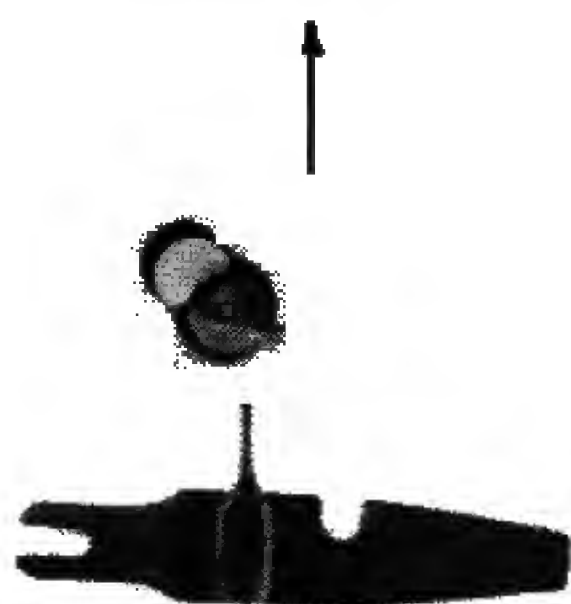
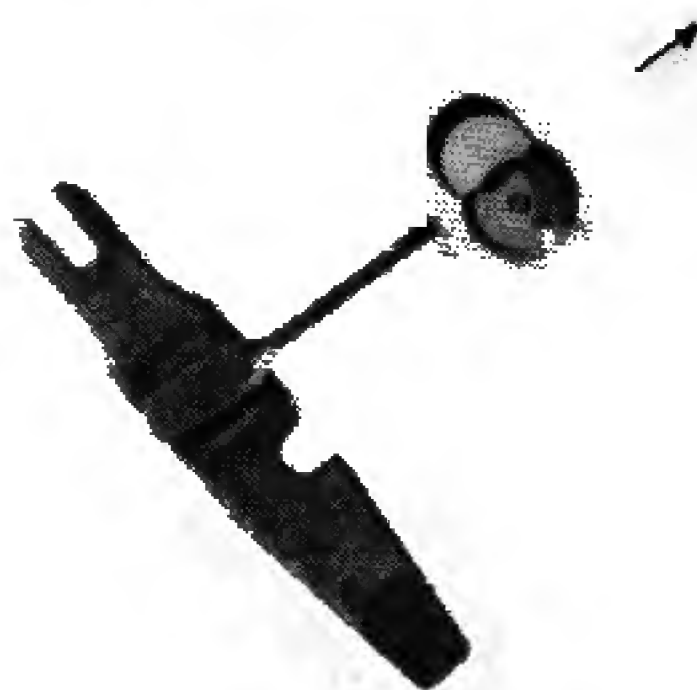

Figure 16
Figure 17
7. Disassemble the bolt by using the knock out rod on the combination tool or a pin punch of correct size. First remove the firing pin retaining pin. (See figure 16.) This will allow the firing pin to be removed from the rear of the bolt. Next, remove the extractor retainer pin. (See figure 17.) This will allow the extractor and extractor spring to be removed. When disassembling the bolt note the alignment of the extractor pin. When re-assembling, the notch in the extractor pin must be replaced exactly as removed to allow the firing pin retaining pin to be replaced.